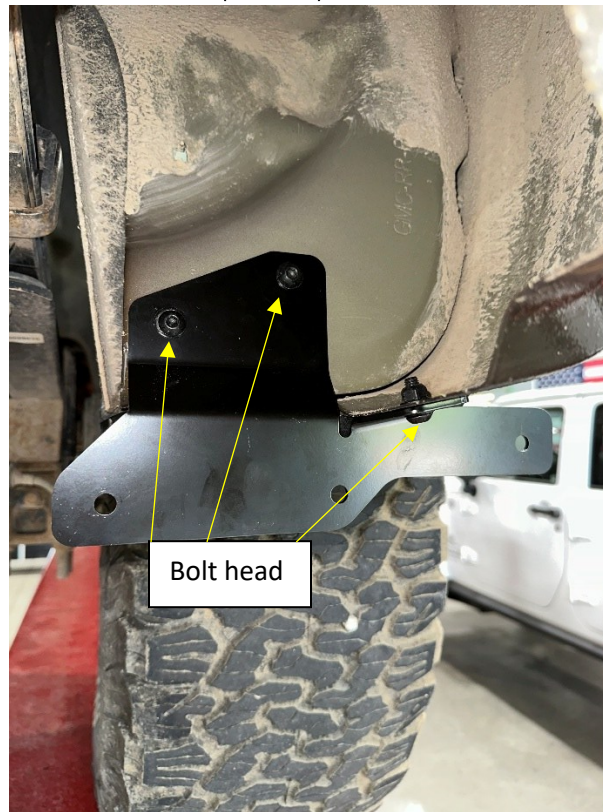

Figure 7
3. Install your AEV Splash Guard Bracket with the newly drilled holes (Figure 7).